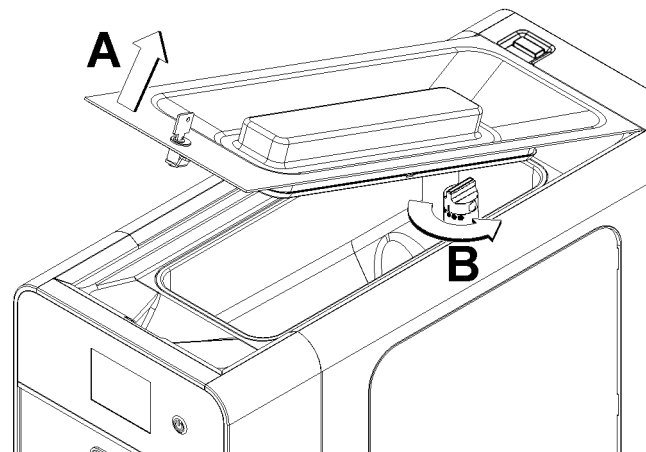

figure 8
**6** When the ice cream is ready, open the cover and turn the upper part of the mixing pipe anti-clockwise to allow the mixture to enter the lower cylinder. (see figure 8)